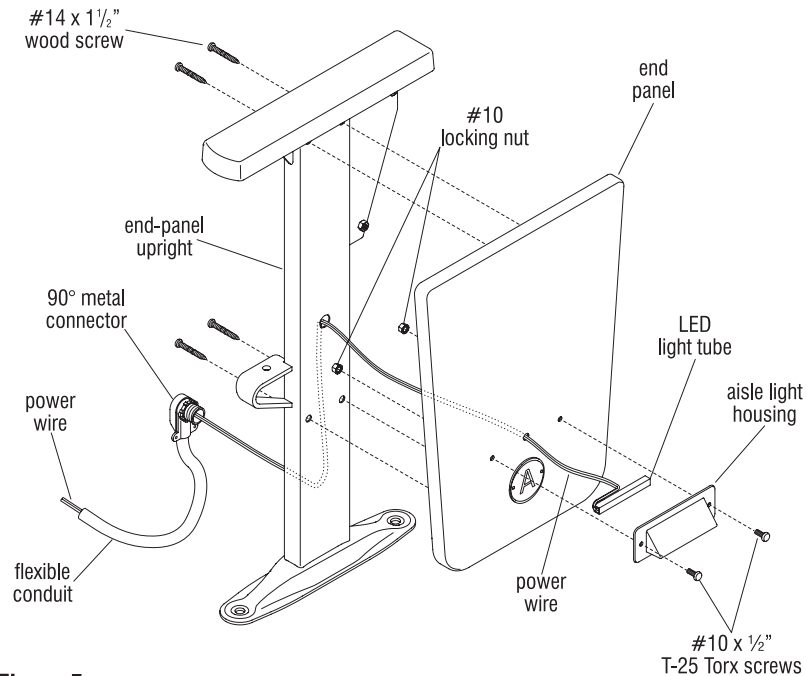

Figure 5
1. Remove the four #14 x 1/2" wood screws securing the end panel to the upright and move the end panel aside (Figure 5).
2. Place the aisle light tube into the aisle light housing and align the LEDs to show down through the opening in the bezel (Figure 5).
3. Route the aisle light wiring first through the outside end panel hole, next into the outside upright hole, down the inner cavity of the upright and out the lower inside upright hole (Figure 5).
4. Attach the aisle light housing with light tube/wiring to the side of the end panel using two #10 x 1/2" T-25 Torx screws and #10 locking nuts (Figure 5).
5. Place the end panel back into position while carefully pulling aisle light wiring through the inside of the upright. From the inside, re-assemble the end panel to the upright with screws removed in step 1 (Figure 5).